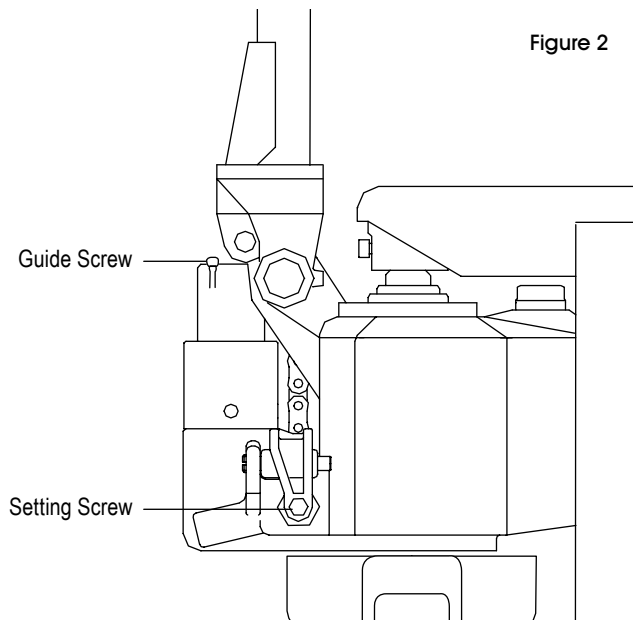

Figure 2
NOTE: When viewing the truck from the handle side, the setting screw is located on the right side of the pump above the right wheel. The truck will lower faster or slower depending on how far in or out the screw is adjusted. (See Figure 2)
1. Remove guide screw and slowly pump the handle until oil overflows. Stop pumping the handle and tighten the guide screw. (See Figure 2)